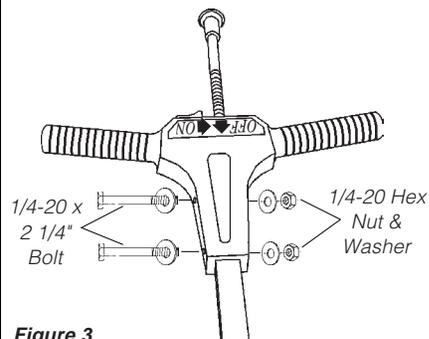
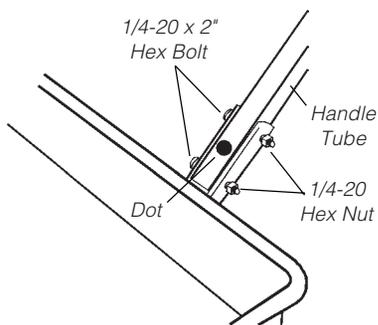

Figure 3
Figure 4
3. Feed control knob/wire through the T-handle until the caution label touches the round hole. See Figure 3.
Feed the T-handle/control wire assembly through the square handle tube towards the locator dot. See Figure 4. Secure the T-handle to the tube with (2) 1/4-20 x 2 1/4" bolts, (4) flat washers, and (2) hex nuts. See Figure 3.
4. Turn the spreader upright and install the handle tube with the dot between the handle braces as shown. Install (2) 1/4 x 1 1/2" hex bolts and nuts. See Figure 4. **The feed control wire must be positioned above the handle brace bolts to operate properly.** Securely tighten all nuts and bolts installed in previous steps.